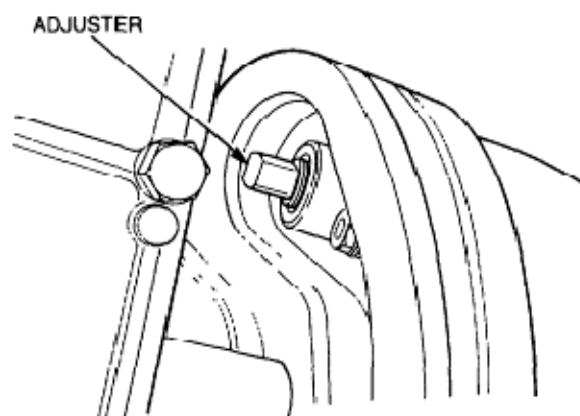

Figure 120 Parking Brake Adjustment
- d. Screw in the adjuster until the brake shoe is tight up against the brake drum (Figure 120).